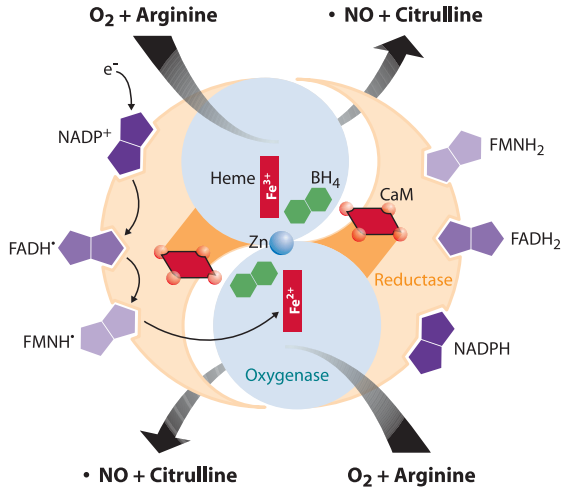
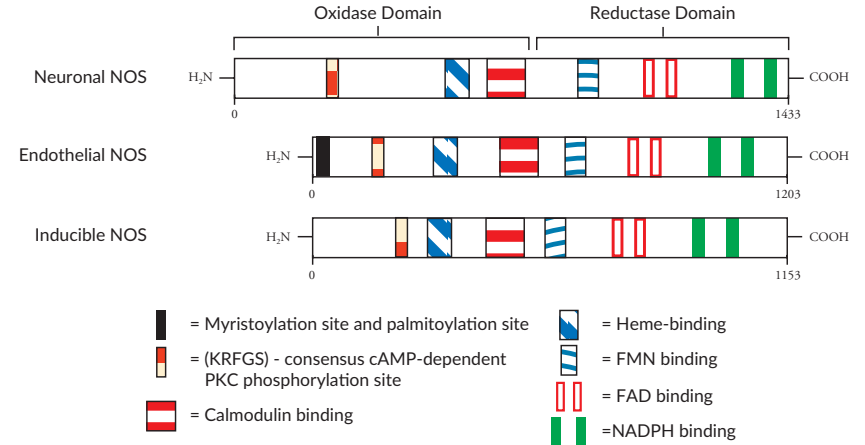

Figure 1. Nitric Oxide Synthesis
Figure 2. Nitric Oxide Synthase Isoforms
Nitric Oxide (NO) is synthesized in biological systems by the enzyme Nitric Oxide Synthase (NOS). NOS is a remarkably complex enzyme which acts on molecular oxygen, arginine, and NADPH to produce NO, citrulline, and NADP⁺. This process requires five additional cofactors (FMN, FAD, Heme, calmodulin and tetrahydrobiopterin) and two divalent cations (calcium and heme iron; see Figure 1). Three distinct isoforms of NOS have been identified, as detailed in Figure 2 on page 7.